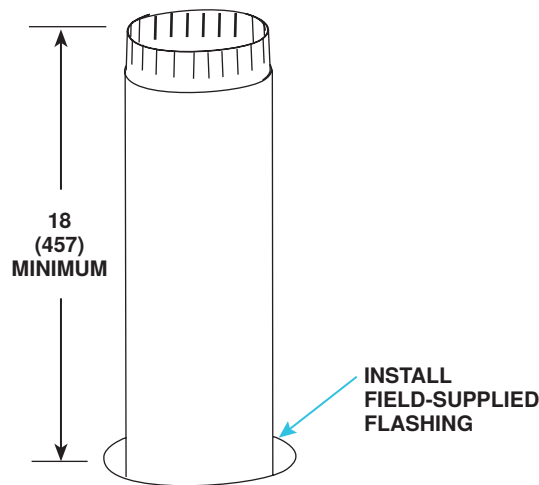

Figure 21. Combustion Air Pipe Through Roof
- a. Insert combustion air pipe through roof as shown in Figure 21.